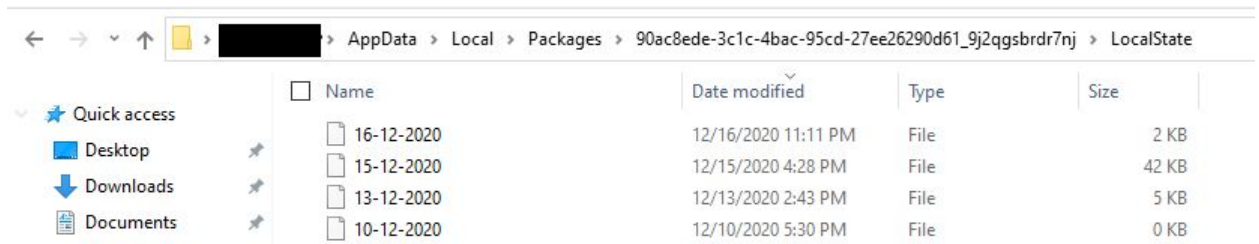

Figure 1
9. Log files are created in the AppData/local/Packages folder under a random string of letters and numbers, as seen in Figure 1. Navigate to this folder, and click on LocalState. Your logs for each date should appear here.